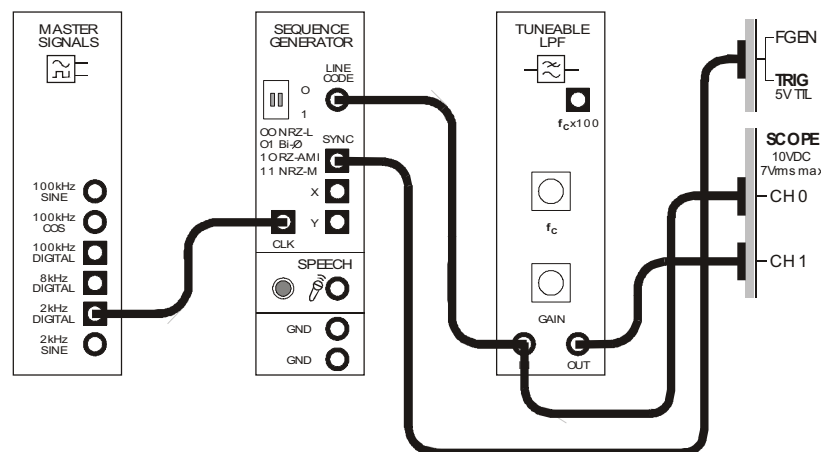

Figure 7
37. Connect the set-up shown in Figure 7 below.